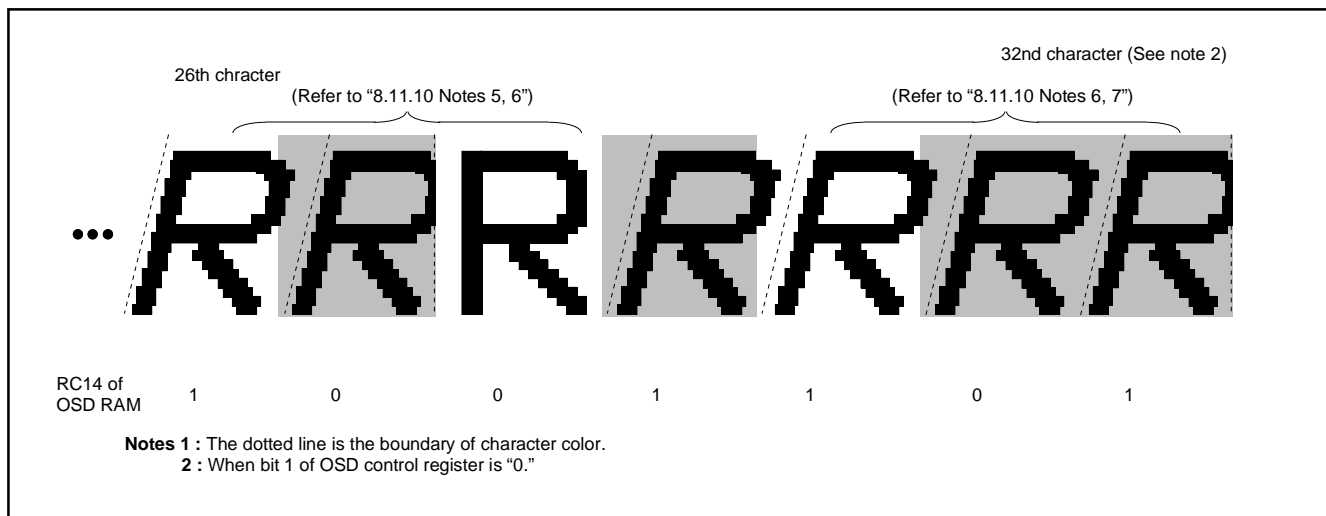

Fig. 8.11.31 Example of Italic Display
- 5: The boundary of character color is displayed in italic. However, the boundary of character background color is not affected by the italic (refer to Figure 8.11.31).
- 6: The adjacent character (one side or both side) to an italic character is displayed in italic even when the character is not specified to display in italic (refer to Figure 8.11.31).